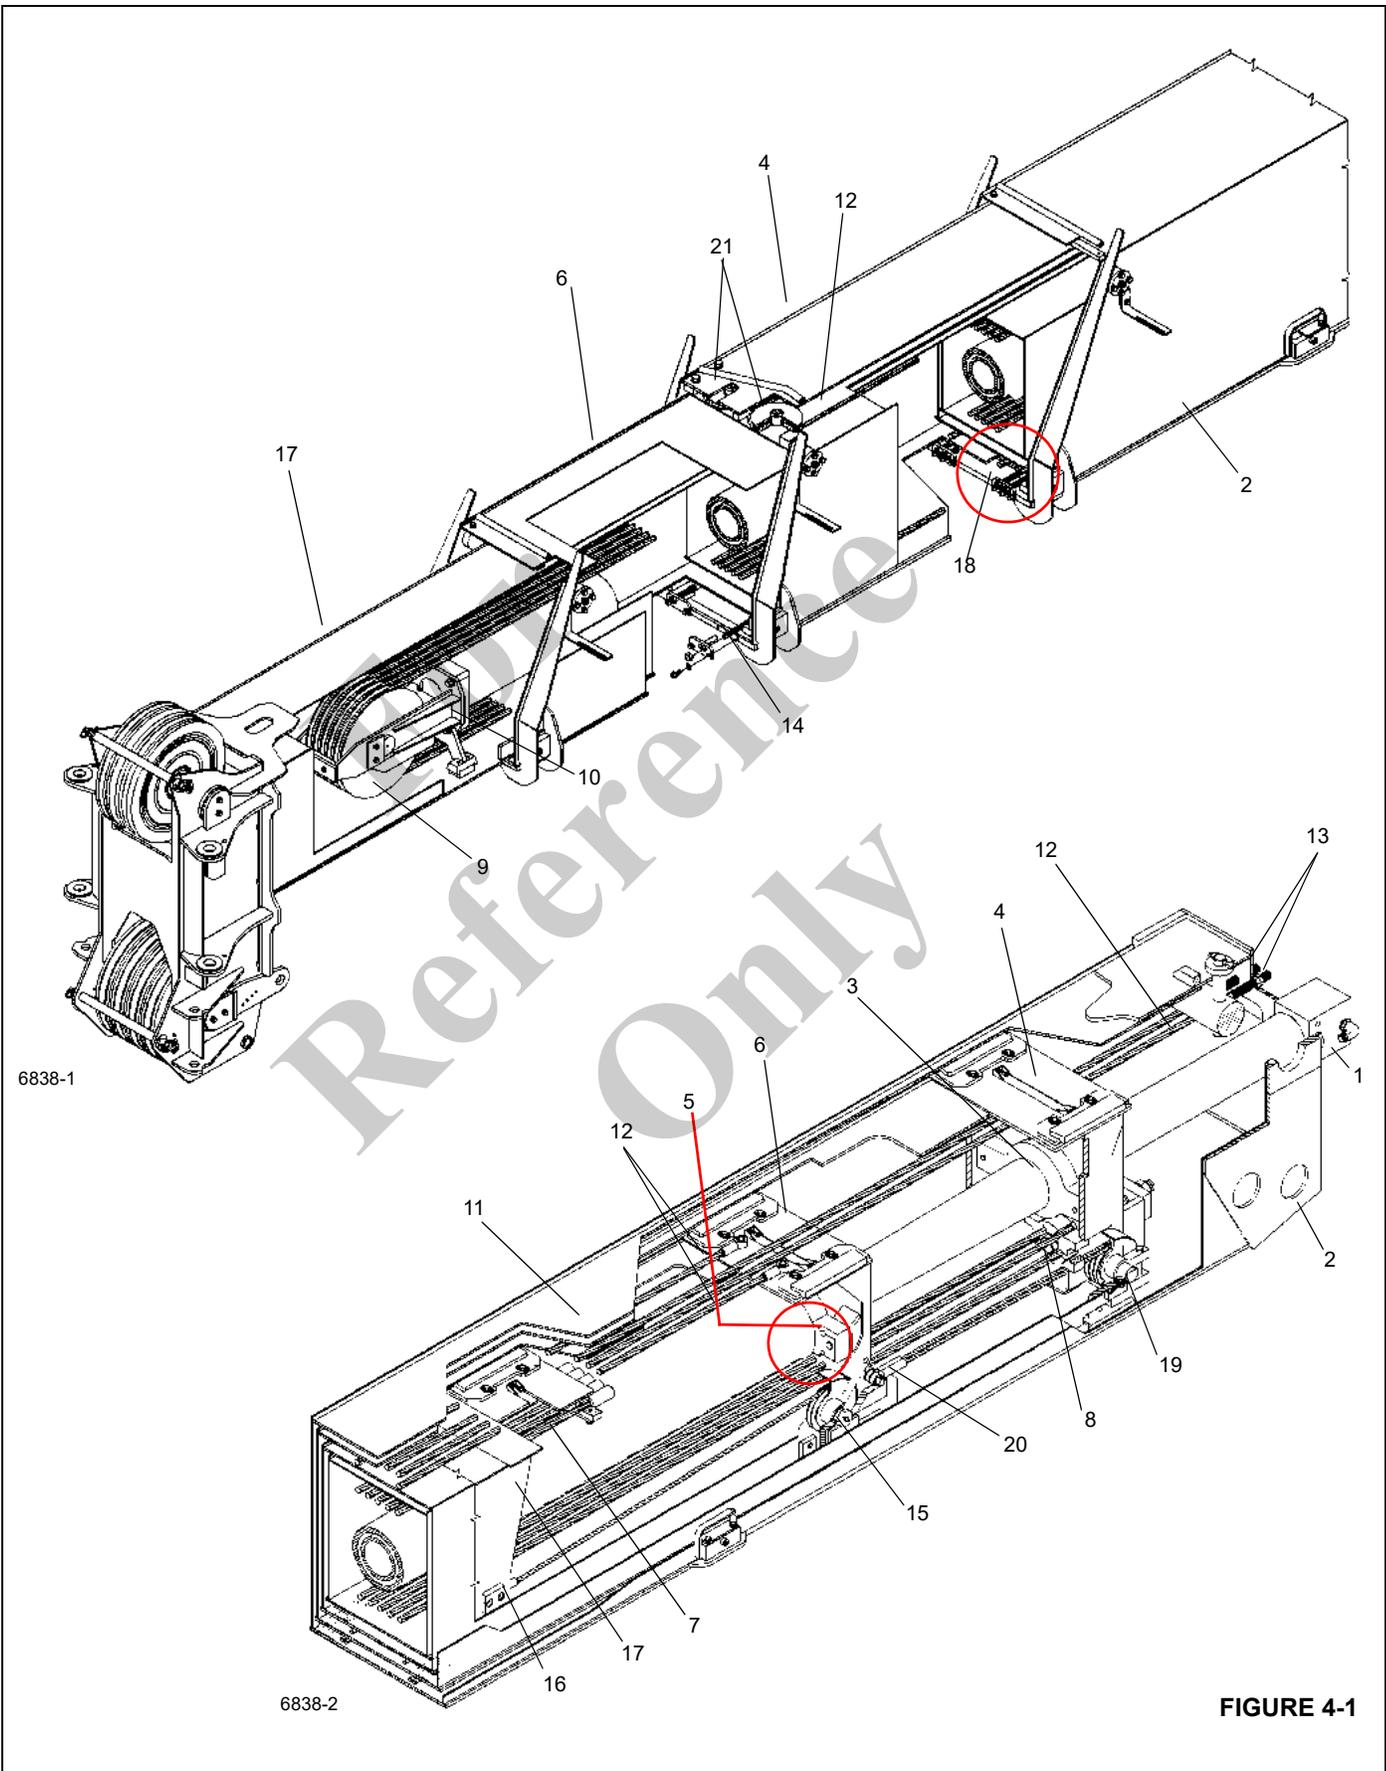

FIGURE 4-1
The telescope cylinder is attached to the boom in three places: (refer to Figure 4-1 for item location).
- The outer rod end (1) of the telescope cylinder is secured to the boom base section (2).
- The inner rod end (3) is secured to the inner mid-section (4).
- The cylinder barrel (5) is secured to the outer mid-section (6).
The fly section has five extension cables (7) attached to it. Refer to Figure 4-1 for item location.
Refer to Figure 4-1 for item location. The long extend synchronizing cables (12) are connected to the rear of the
Refer to Figure 4-1 for item location. The two retraction cables (14) are secured at the outside front of the inner mid-section (4), are routed around sheaves (15) mounted on the end of the outer mid-section (6) and are secured at the opposite end (16) to the fly section (17).
Refer to Figure 4-1 for item location. The four retraction cables (18) are secured at the outside front of the base section (2), are routed around sheaves (19) mounted on the end of the inner mid-section (4) and are secured (20) at the opposite end to the outer mid-section (6).
Refer to Figure 4-1 for item location. As the telescope cylinder extends, the cylinder barrel (5), which is attached to the outer mid-section (6), and the inner cylinder rod (3) which is attached to the inner mid-section (4), pulls the mid sections out along with it.
Refer to Figure 4-1 for item location. As the telescope cylinder is retracted, the outer mid-section (6) (attached to the cylinder barrel) and the inner mid-section (4) (attached to the inner cylinder rod) are pulled in.